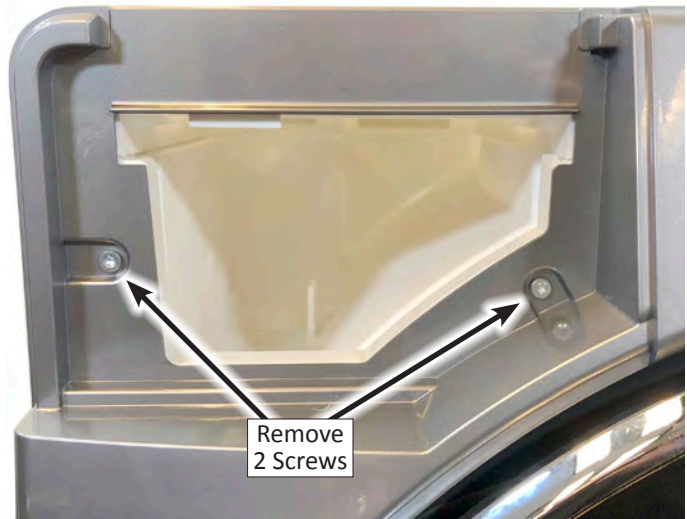

Figure 1
6. Using a T20 Torx driver, remove the two (2) screws on both sides of the dispenser drawer opening (see Figure 1).